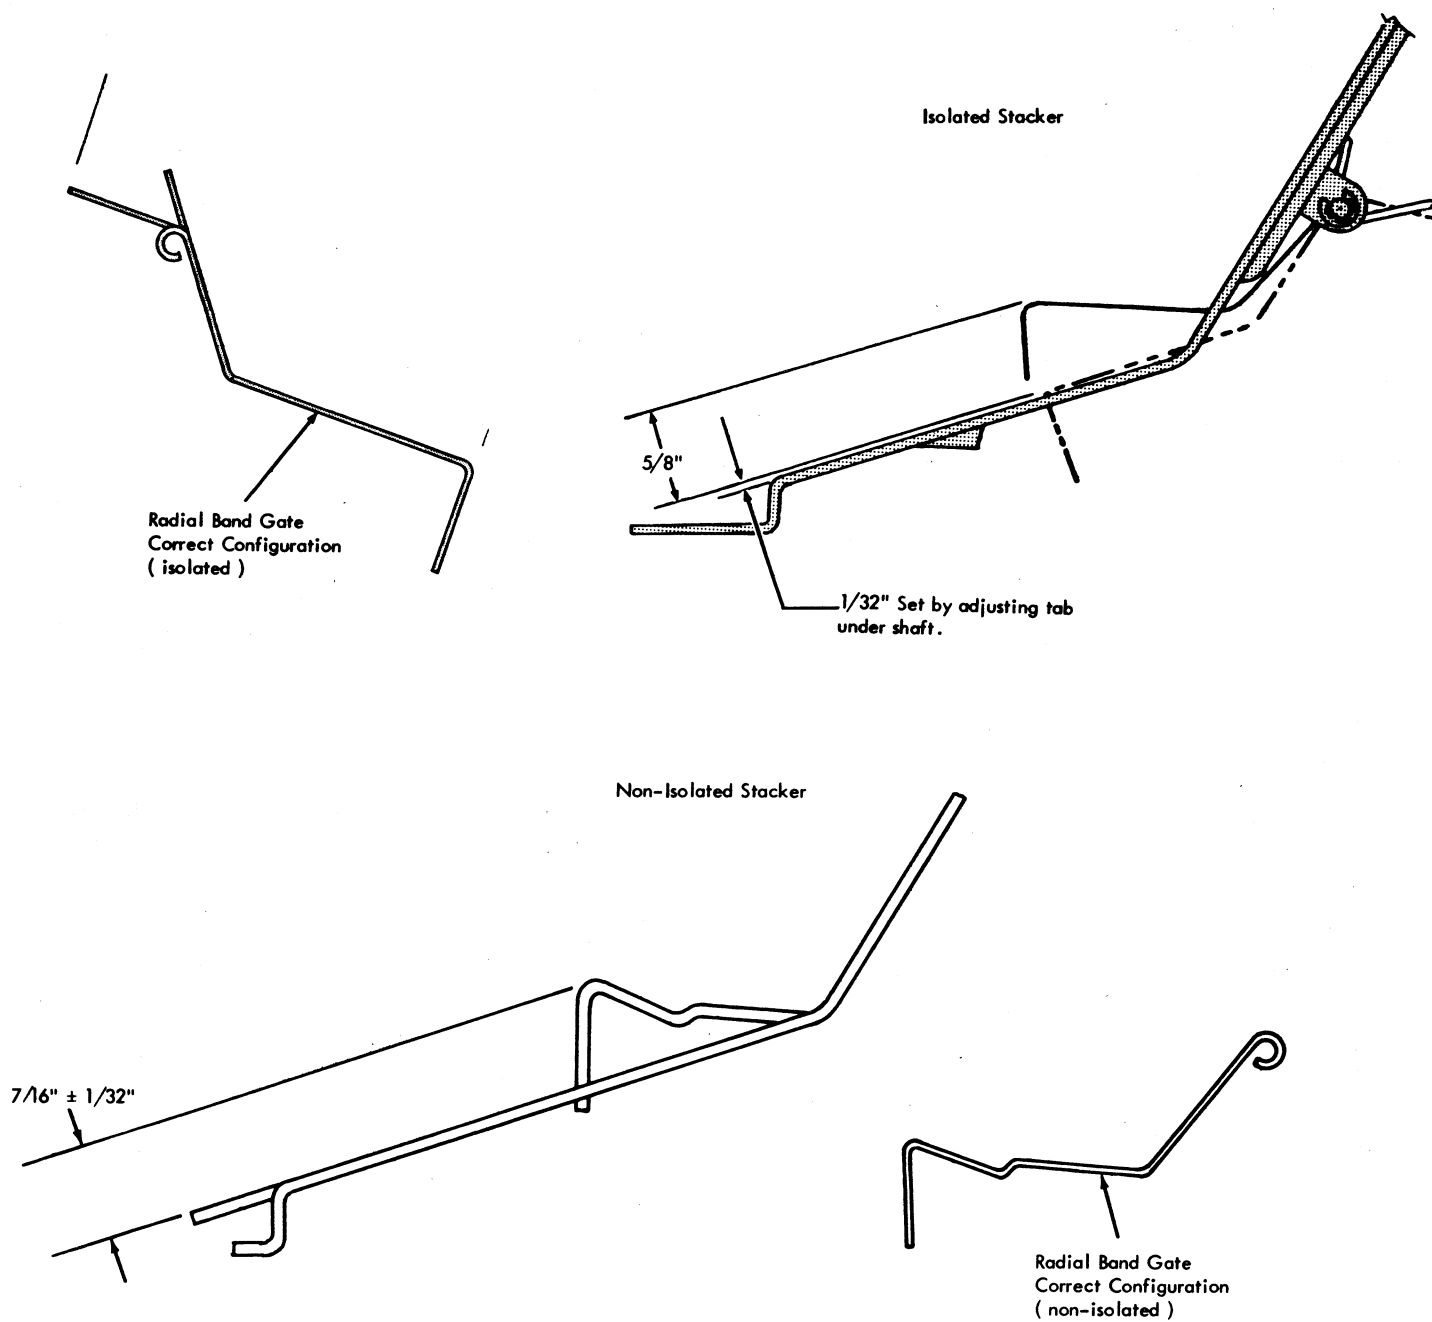

Figure 4-28. Radial Guide Gate Adjustment
1. Radial band gate should conform to configuration shown (Figure 4-28) and should be  $7/16'' \pm 1/32''$  above surface of radial guide. If necessary, form radial band gate to meet these requirements.